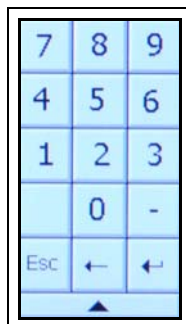

Figure 3N *Number Keypad*
2. In the "Modify Spout Positioning" screen select the spout that requires adjustment by touching the value pad next to the spout number balloon. A number keypad will display (See Figure 3N.)